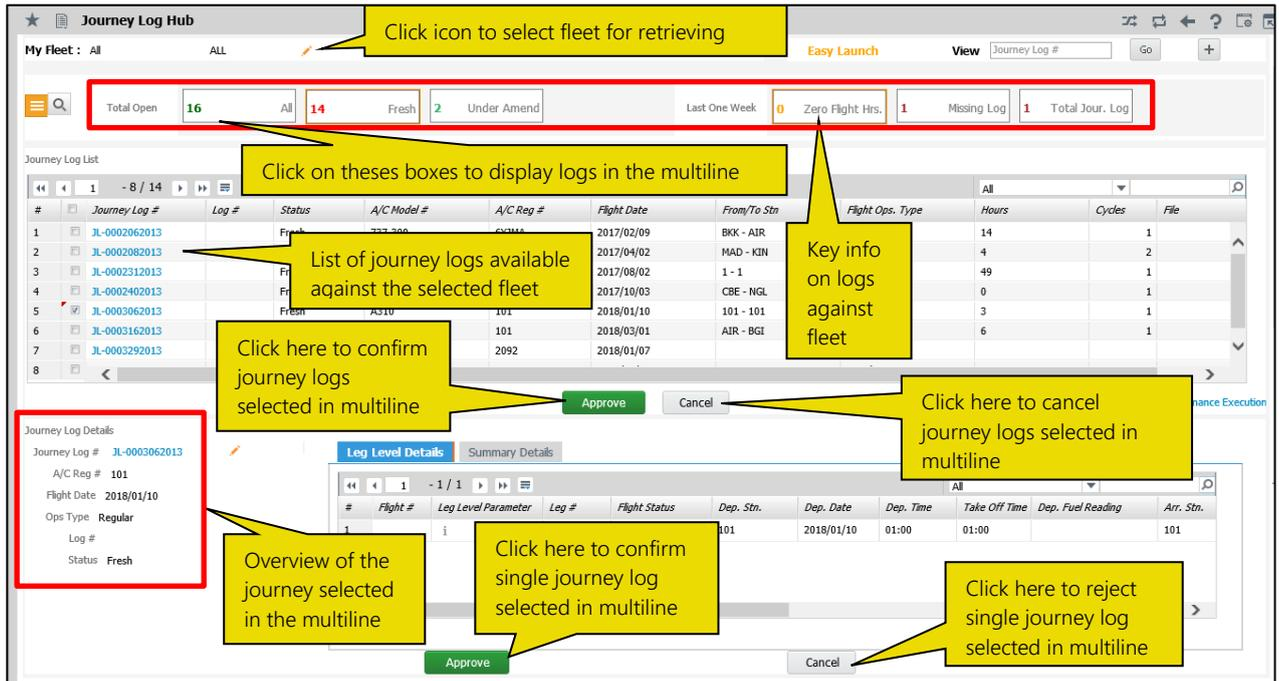

Figure 2.2 The Journey Log Hub page
- Select **Journey Log Hub** from **Flight Log** in the **Flight Operations** business process. The **Journey Log Hub** page appears. See *Figure 2.2*.